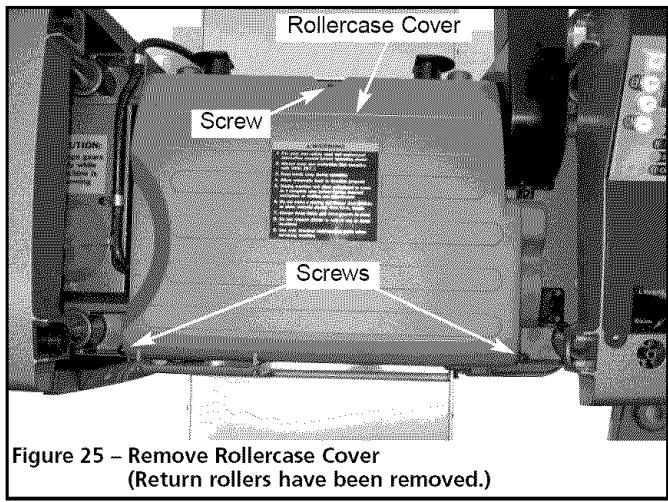

Figure 25 – Remove Rollercase Cover
- Remove the return rollers. Remove three (3) screws and lift the rollercase cover up from the rollercase (see Figure 25).